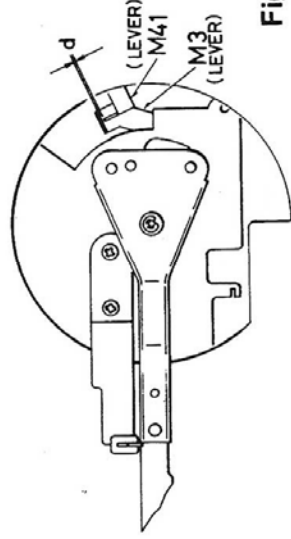

Fig. 3
3. Fix the stopper after agreeing the needle point of the headshell with the boss (62) of the turntable.
4. Adjust so that a clearance between the feed lever (M3) and the tip of the arm lever (M41) becomes 0 – 0.3 mm by means of a blade screwdriver inserted into a hole put on with seal (67) at the position above the arm part over the deck panel. (Fig. 3)